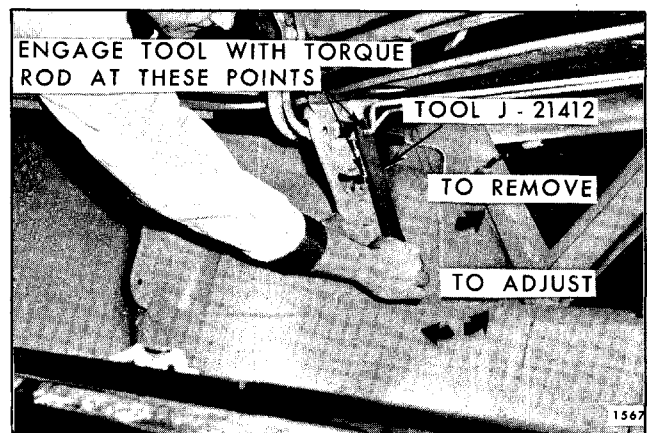
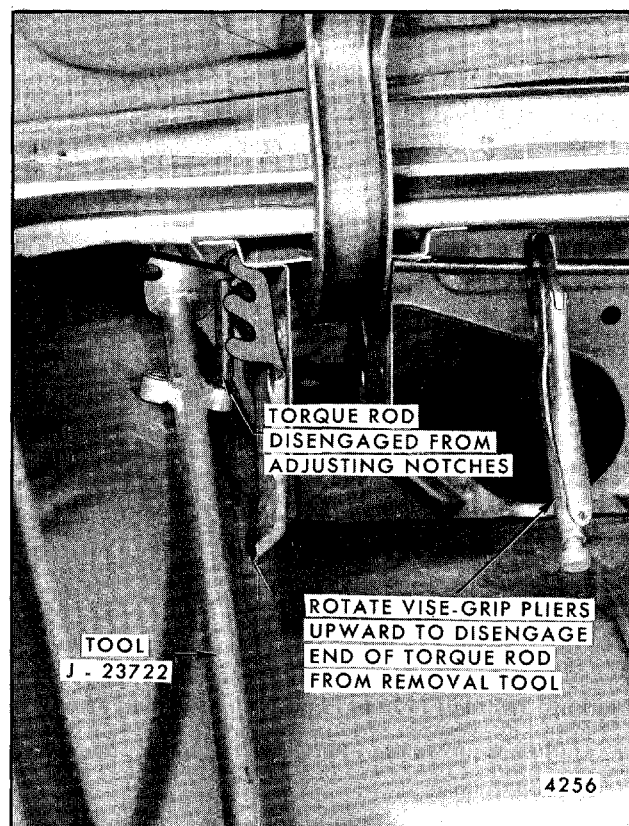

Fig. 7-43-Rear Compartment Torque Rod Adjustment - X-27, 69 Styles
Fig. 7-49-Rear Compartment Torque Rod Removal - Cadillac E Styles
- a. On X-27, 69 and H-27 styles, use tool J-21412-01 or equivalent (Fig. 7-43).
2. To remove torque rods, prop lid in full open position and disengage end of torque rod from adjusting notches on hinge box, as shown in Figures 7-43, 7-49, 7-50 and 7-52. Then allow handle of removal tool to rotate forward to relieve tension on rod. In some cases, it may be necessary to install a pair of locking type pliers on rod, as shown in Figures 7-49, 7-50 and 7-53, and lift upward on pliers to disengage removal tool from end of rod.